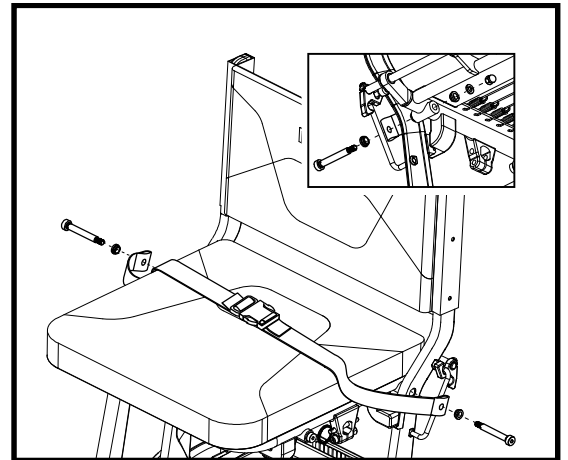

Figure 16. Positioning Belt Bolts
1. Remove shoulder bolts, castle nuts, and washers holding the seat base. See **figure 16**.
2. Hook seat belts on the shoulder bolt housing. See **figure 16**.